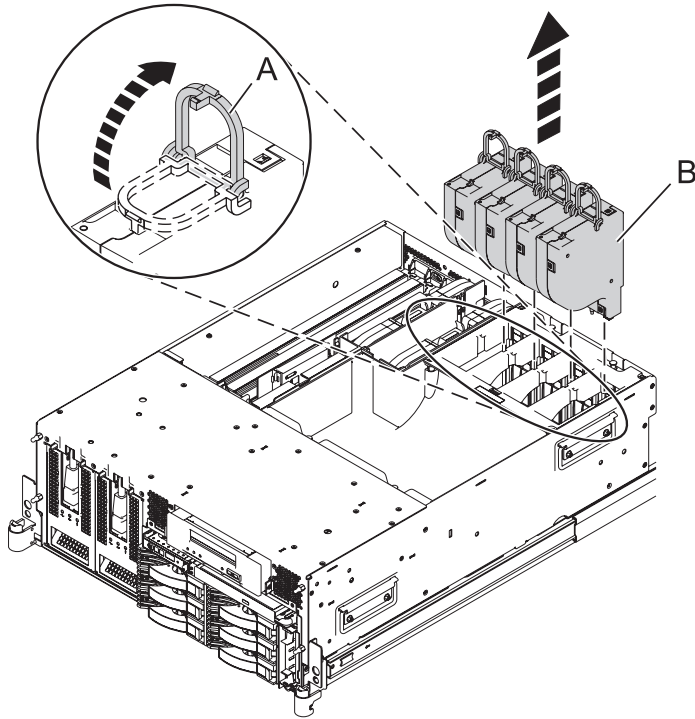

Figure 10. Removing the fans from the 8203-E4A, 9407-M15, or 9408-M25 airflow cover
- 1) To remove the fans, lift the latch (A) upward and pull each fan (B) out of the airflow cover as shown in Figure 10 on page 17.